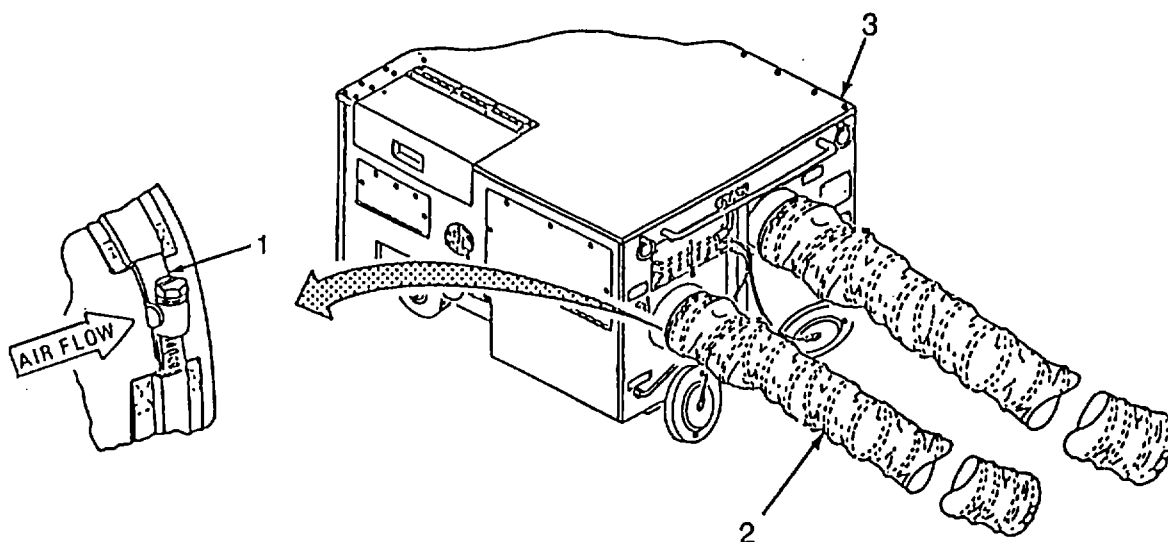

Figure 4-9. Duct Assembly (Sheet 1 of 2)
- a. Removal (Refer to Figure 4-9)